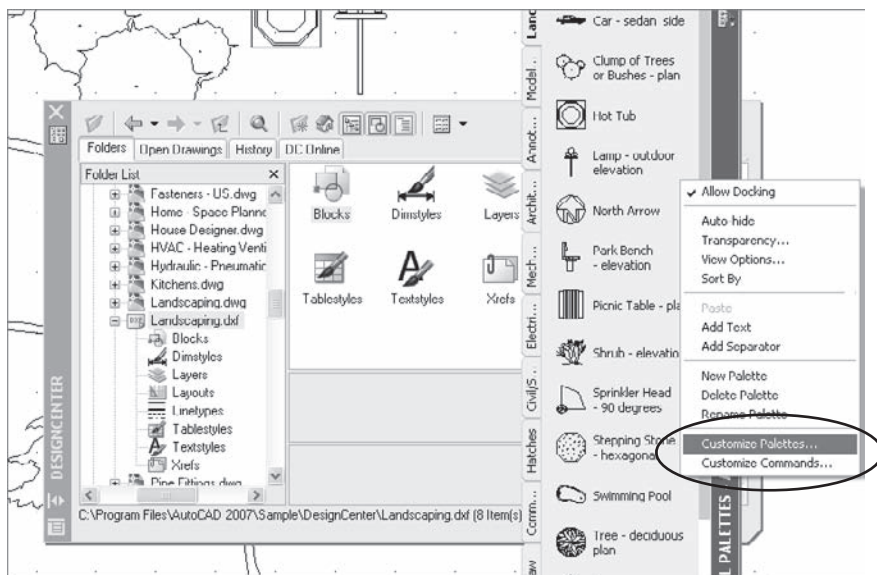

Figure 3.3
1. Open the *Customize* dialog box by right-clicking an empty area of the tool palette and selecting *Customize Palettes* (see Figure 3.3).